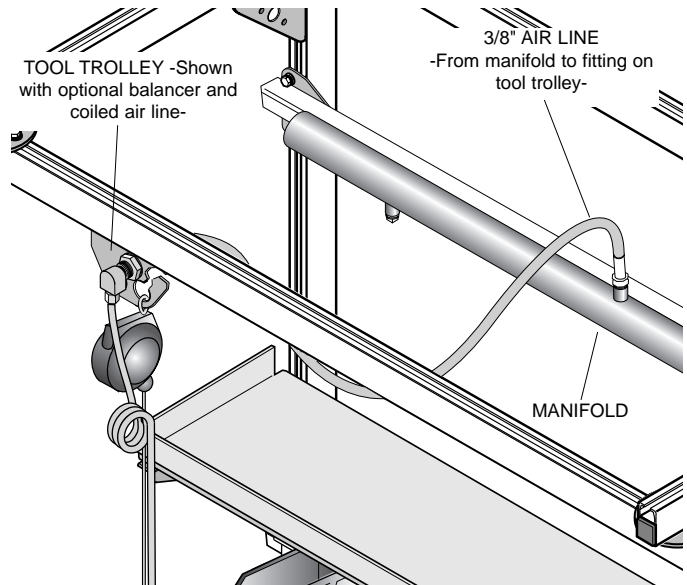

Figure 11.
- Install 3/8" ID Air Line from Manifold to fitting on tool trolley (Fig. 11.)